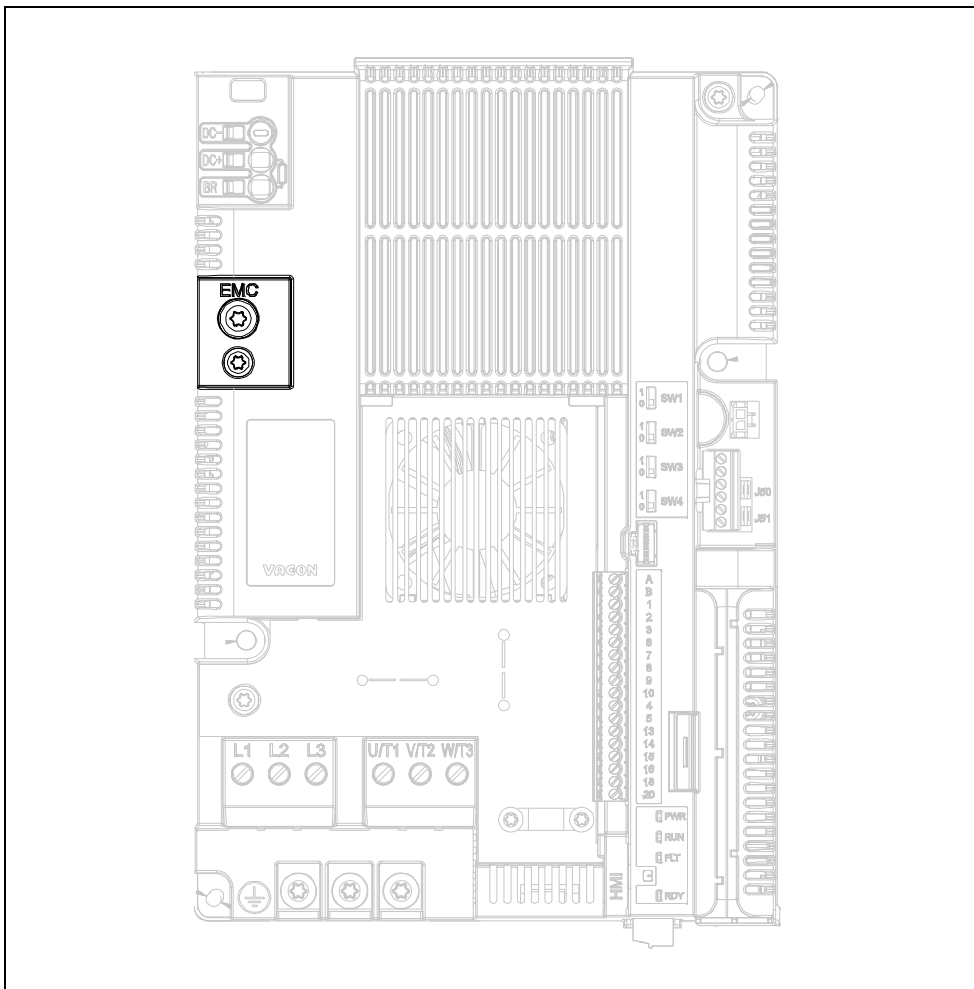

Figure 44. Changing the EMC class in the MU3 control unit.
**1** Remove the EMC screw as shown in the Figure 44.